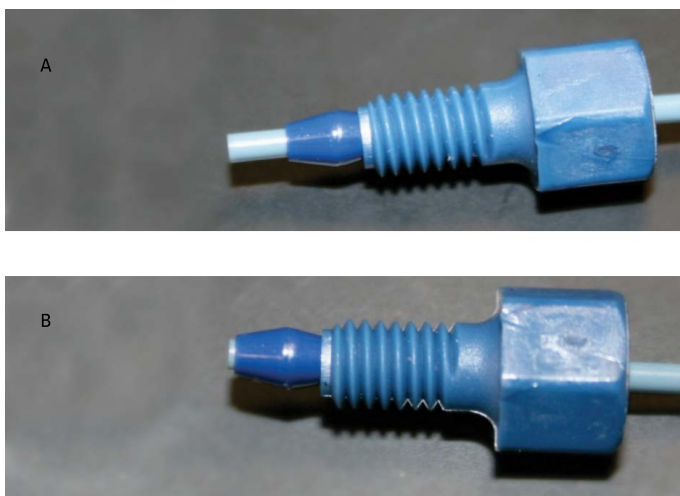

Figure 4. A) Correct. B) Incorrect.
- b. Push a connector and a ferrule onto the tubing with 2 mm or more of tubing extended beyond the ferrule (Figure 4). (To ensure a good connection, you can extend the tubing 5 mm beyond the ferrule.)